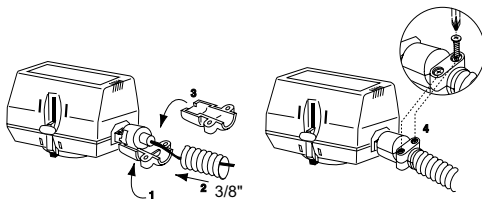

Figure 4 - Flexible Conduit Attachment
2. Connect leadwires. See figure 4 for flexible conduit installation with plenum-cable models.